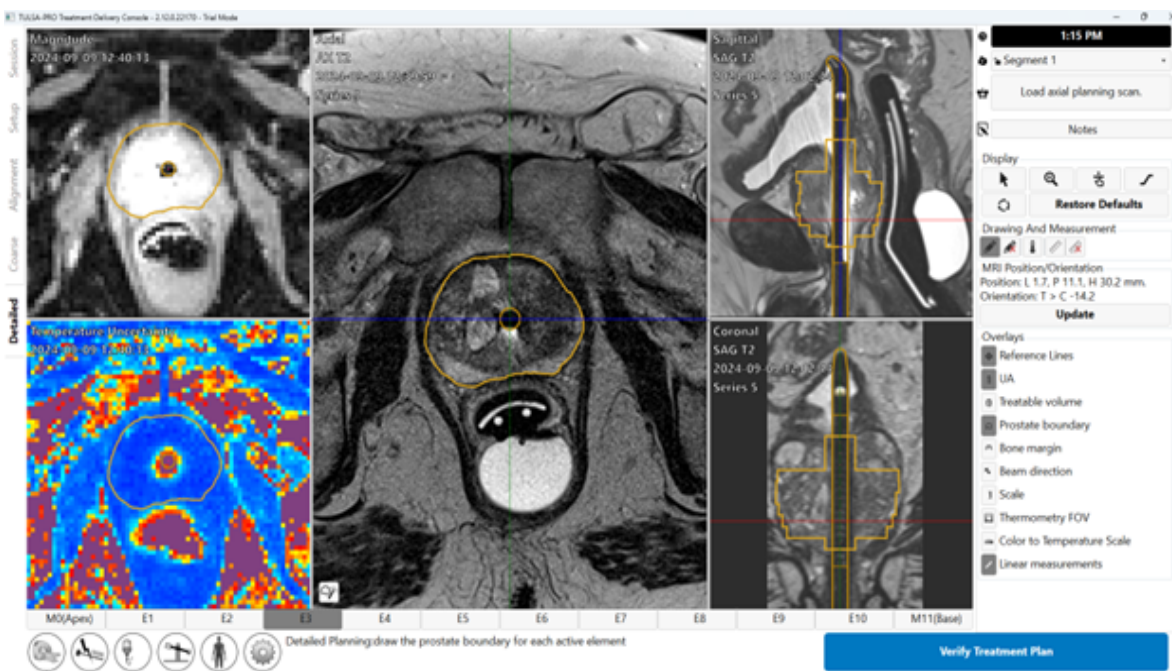

Figure 42: Detailed Planning after drawing boundaries
1. Draw or edit the boundary to outline the tissue to be ablated on each slice based on the corresponding AX T2 and THERM magnitude images (*Figure 42*). Tools to customize the boundary are described in the following *mpMRI Vision*, *Treatment Arc*, *TULSA-AI Volume Reduction (VR)*, and *Contouring Assistant*. You can select individual slices by clicking on the numbered tab at the bottom of the screen or by pressing the left and right arrow keys on the keyboard. Use the sagittal and coronal views of the SAG T2 images to verify the intended ablation zone in three dimensions.